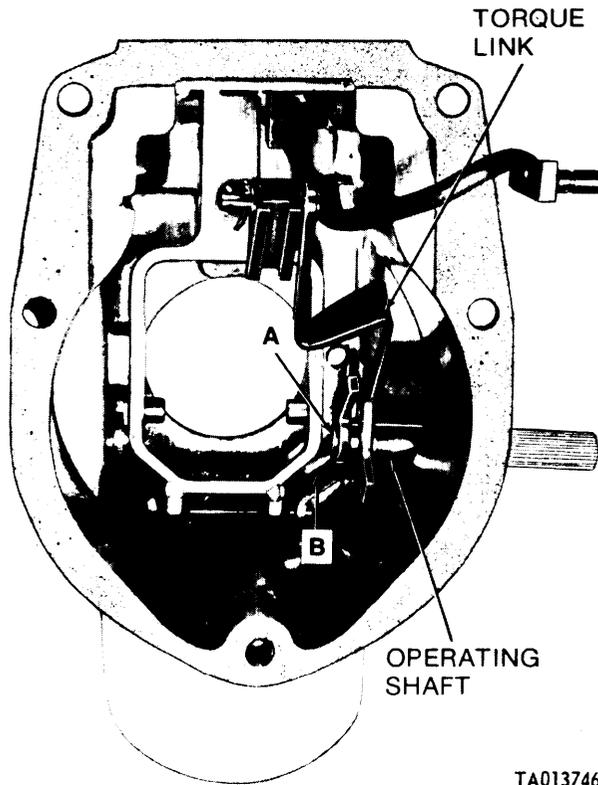

Figure 3-78. Engaging operating shaft bearing to fulcrum lever (code A pumps).
(9) Refer to figure 3-78. Engage operating shaft assembly pin (A) in fulcrum lever (B) with torque link positioned as shown. Rotate torque link upward.